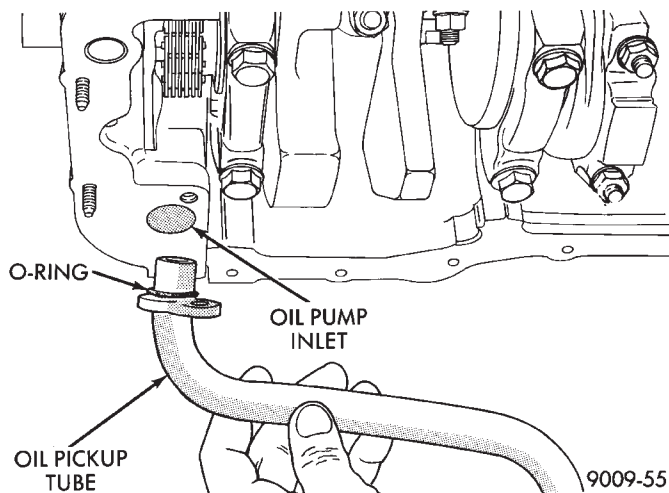

Fig. 2 Oil Pump Pick-up Tube Service
- (1) Install oil pick-up tube into Chain Case Cover tighten screw to 28 N•m (250 in. lbs.) (Fig. 2).